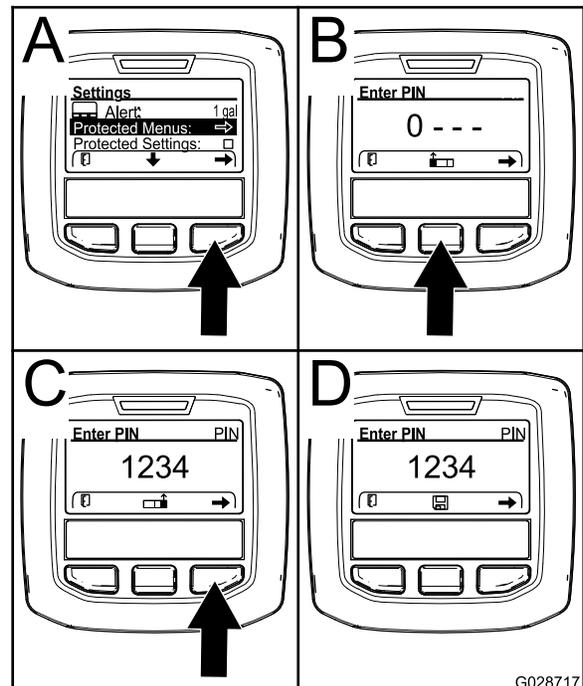

Figure 12
3. Press the right select button to select Protected Menu (A of Figure 12).
- Press the center selection button (B of Figure 12) to increase the numerical value (0 to 9).
- Press the right selection button (C of Figure 12) to move the cursor to the next numerical position to the right.
Note: The Save icon appears above the center selection button (D of Figure 12).